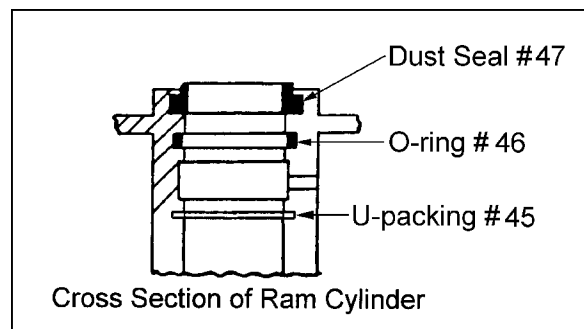

Figure 5
- Remove spring pin (82). This will free the pump and handle assembly from the pallet truck.
- Remove the oil plug (50), turn pump over and empty the oil into a suitable container. Pump handle until all oil has drained. Dispose of used hydraulic oil according to local disposal regulations.
- Pull out plunger piston (37) and/or ram piston (48).
- Remove all o-rings and seals. See Figure 5.